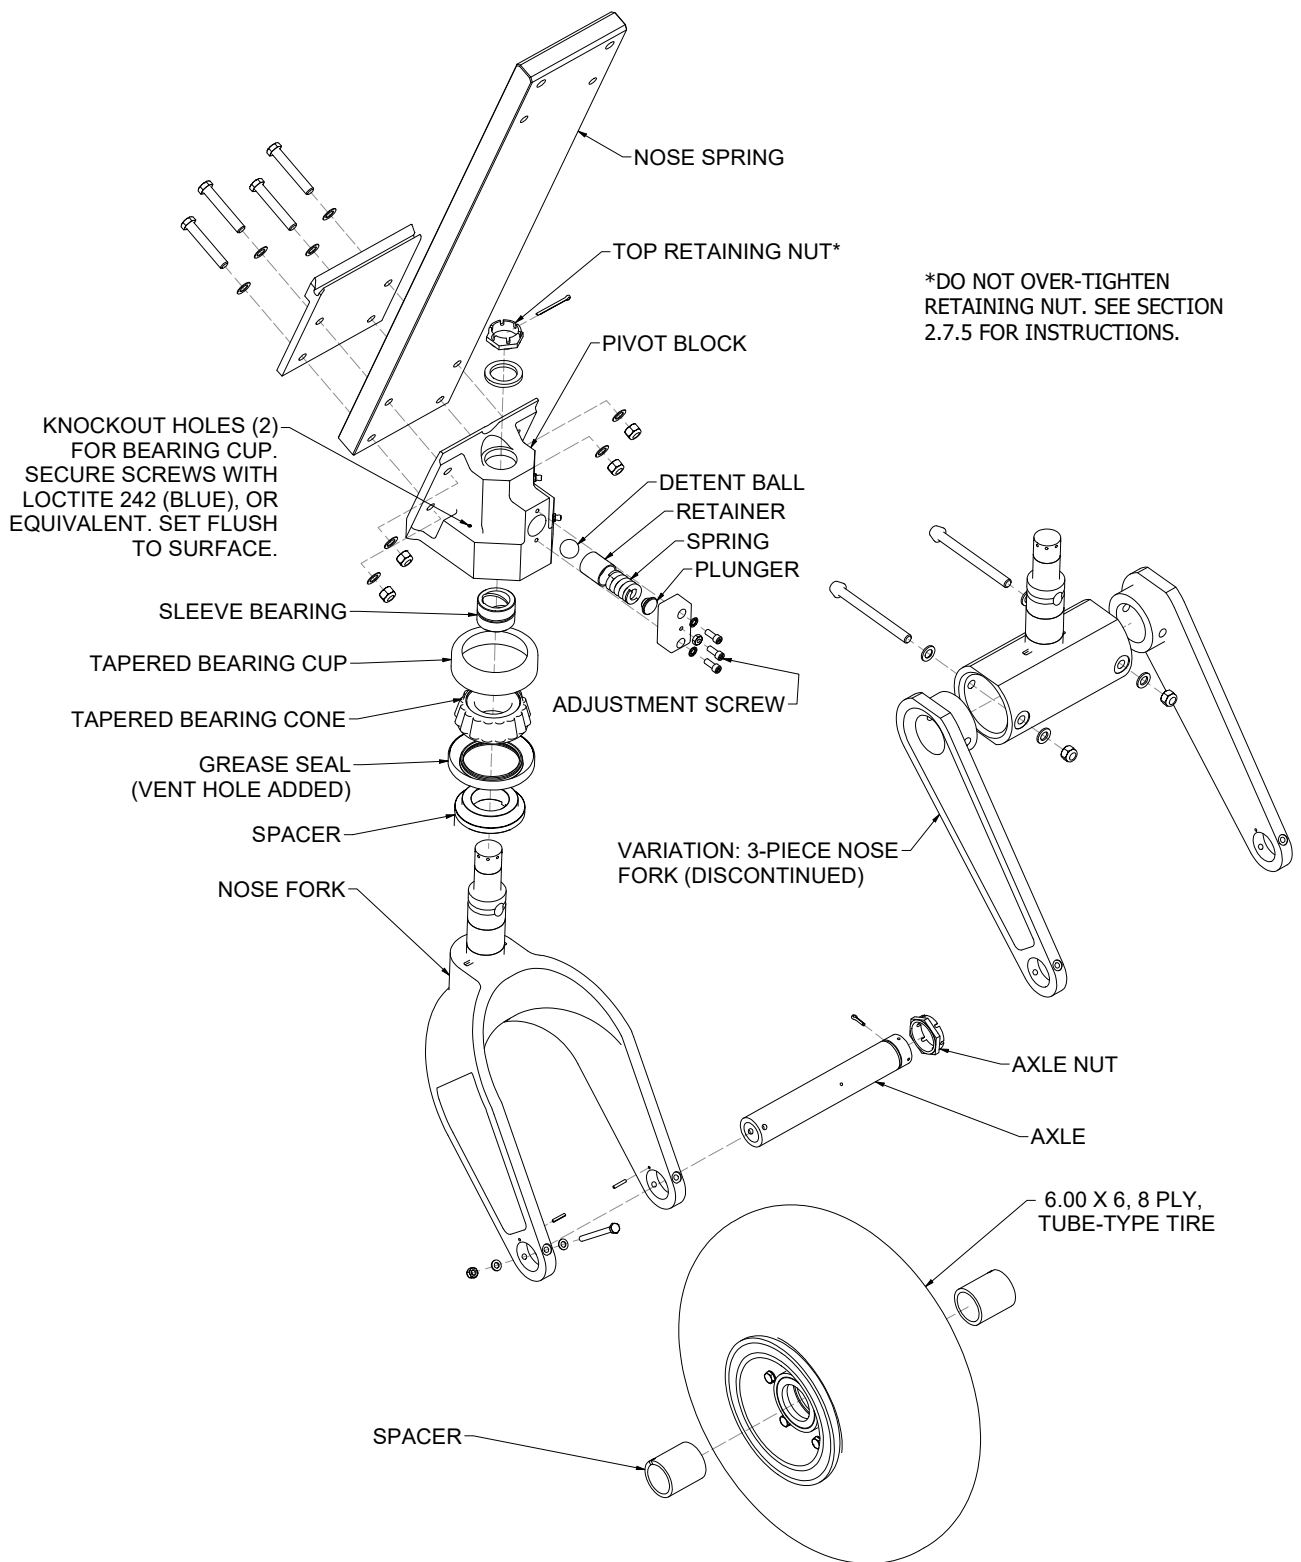
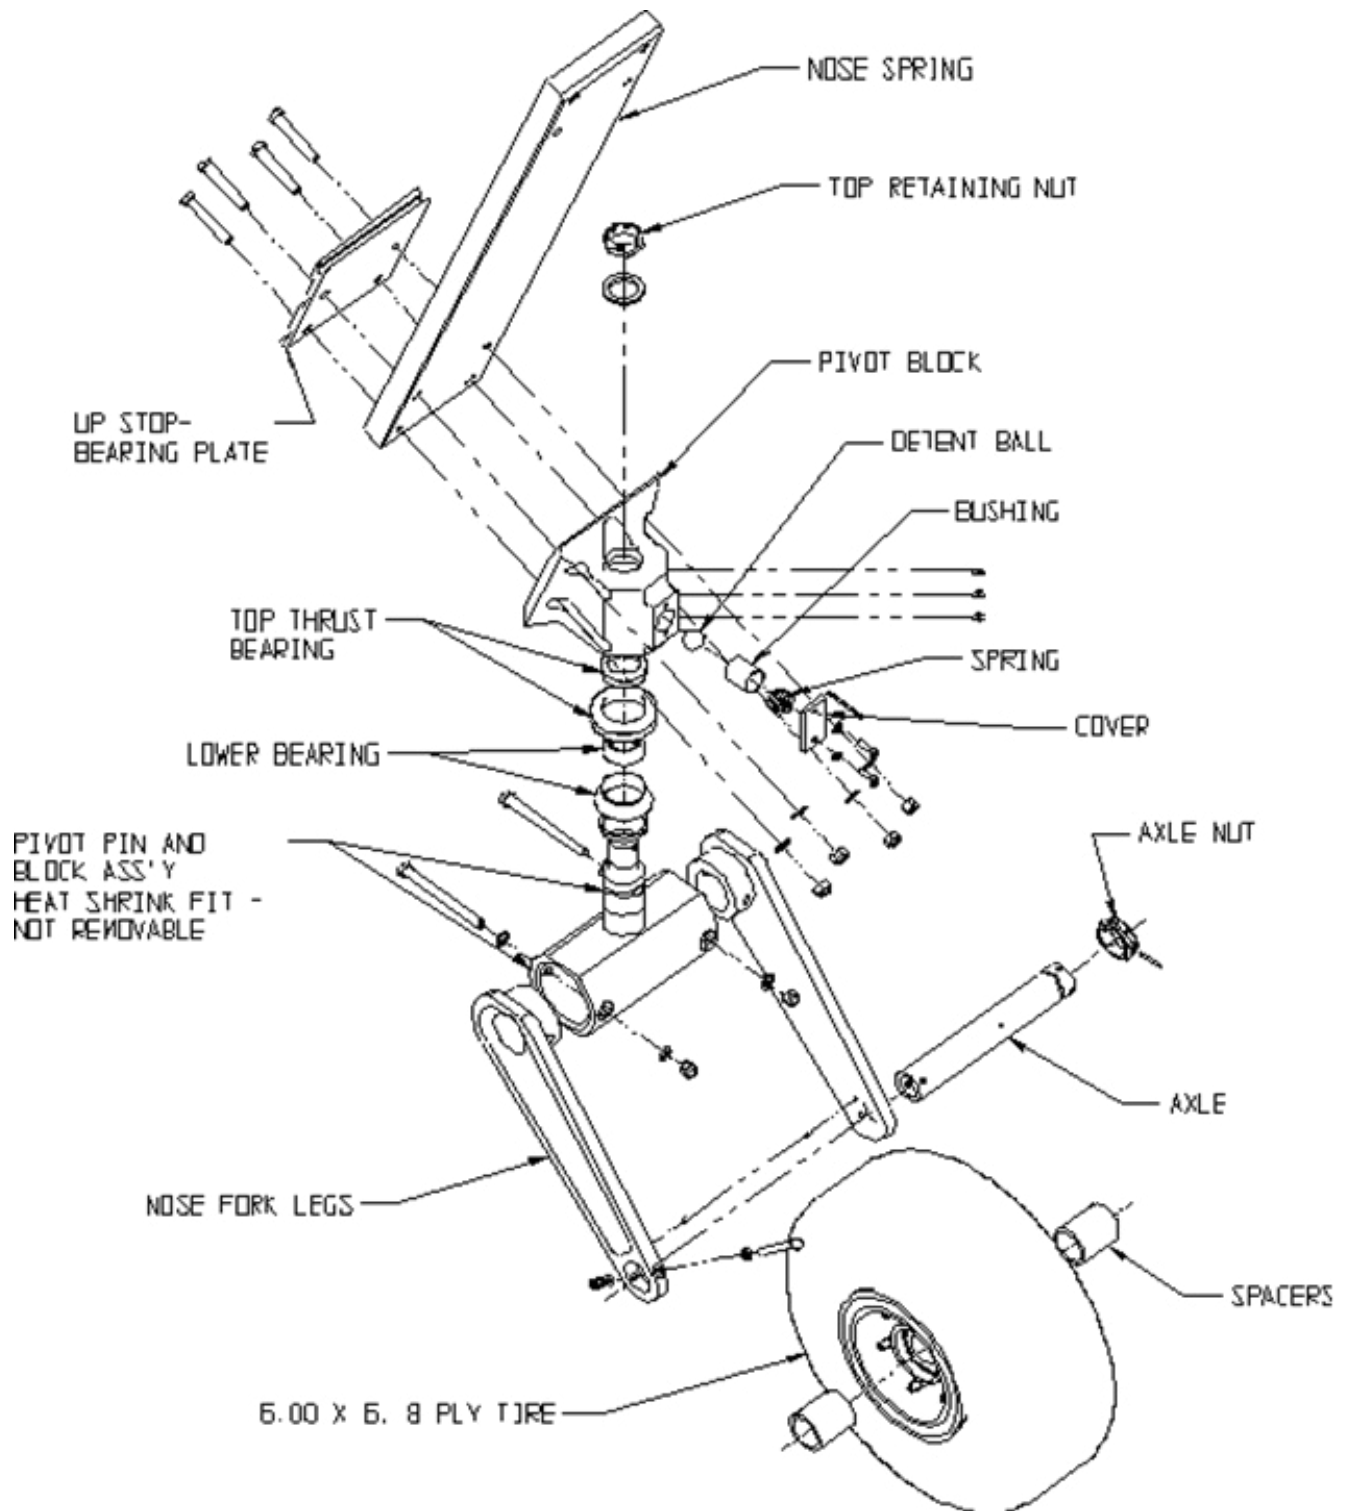

FIGURE 2.11A ASSEMBLY – NOSE GEAR LOWER END (NEW VERSION)
FIGURE 2.11B ASSEMBLY – NOSE GEAR LOWER END (OLD VERSION)
- b. If shimmy continues, add washers or adjust screw (if equipped) at the centering spring. Refer to Figure 2.11A and Figure 2.11B for exploded views of pivot block assemblies. Added washers are to be of the spec NAS1149F08XXP with a maximum recommended stackup of 0.095". As examples, this could be: (1) NAS1149F0832P, (1) NAS1149F0863P, or both combined. Equivalently, loosen jam nut and apply up to two complete turns (maximum recommended) to the adjustment screw, if equipped, from the point it contacts the spring plunger, then tighten jam nut.